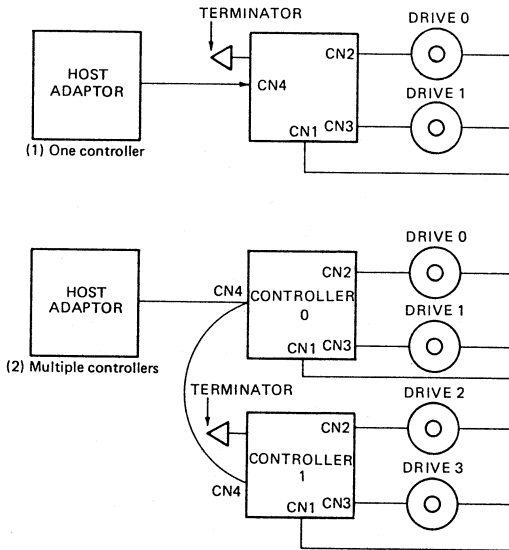

Figure 5
- 2) When multiple controllers are used, the terminator (register pack) must be installed only on the last board. Fig. 5 shows two operating setups; (1) using one controller and (2) using two controllers.